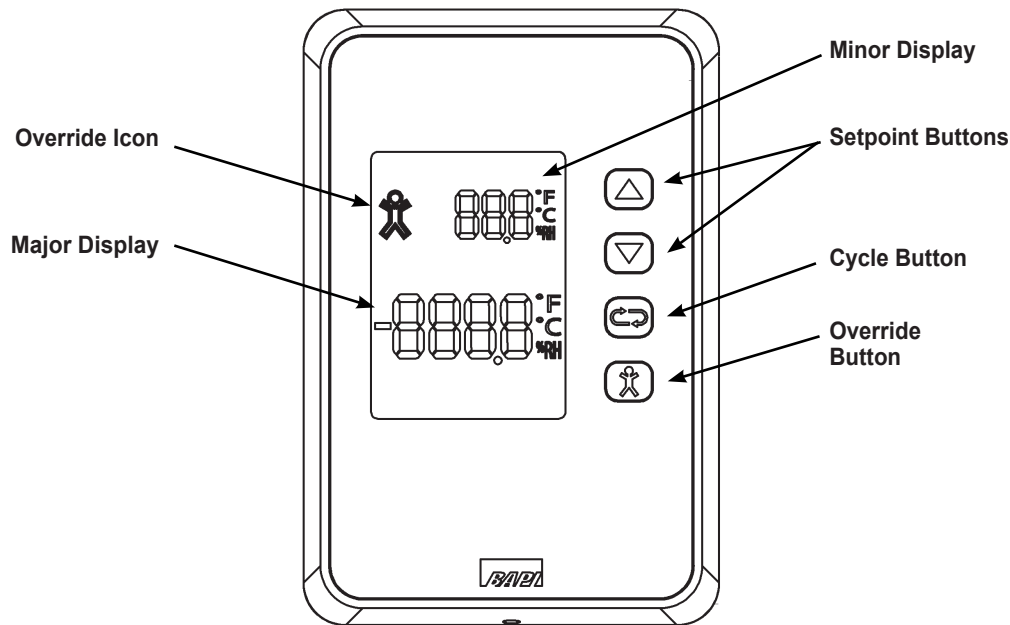

Fig. 5: BAPI-Stat “Quantum Prime” with Temperature and Humidity Setpoint and Override.
- Setpoint, Cycle and Override (4 buttons) as shown in Figure 5.